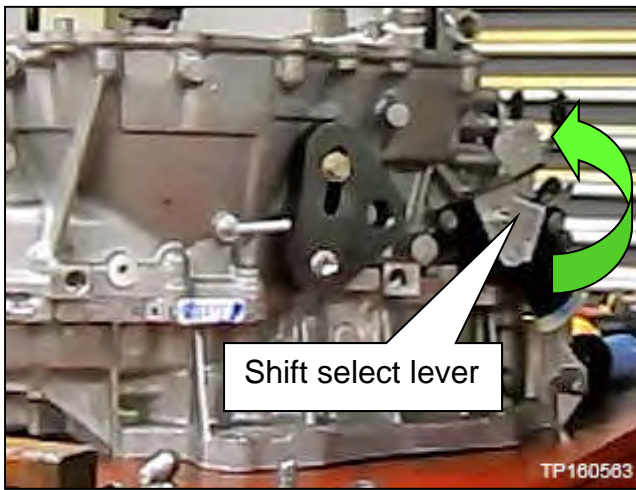
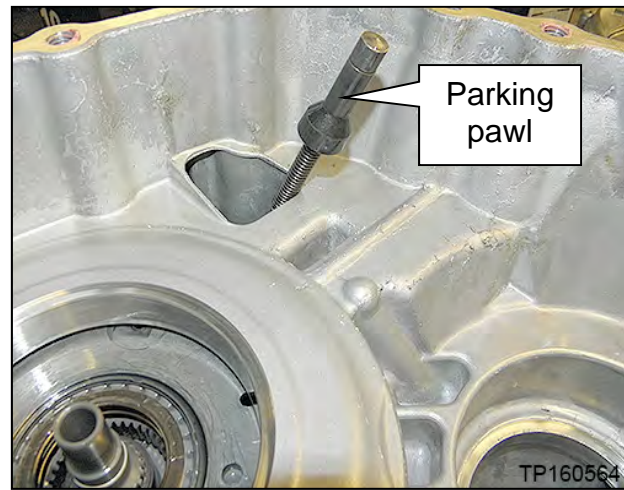

Figure 85
Figure 86
67. Rotate the shift select lever counterclockwise to the “L” range position (Figure 85), so that the parking pawl is at its lowest position (Figure 86).